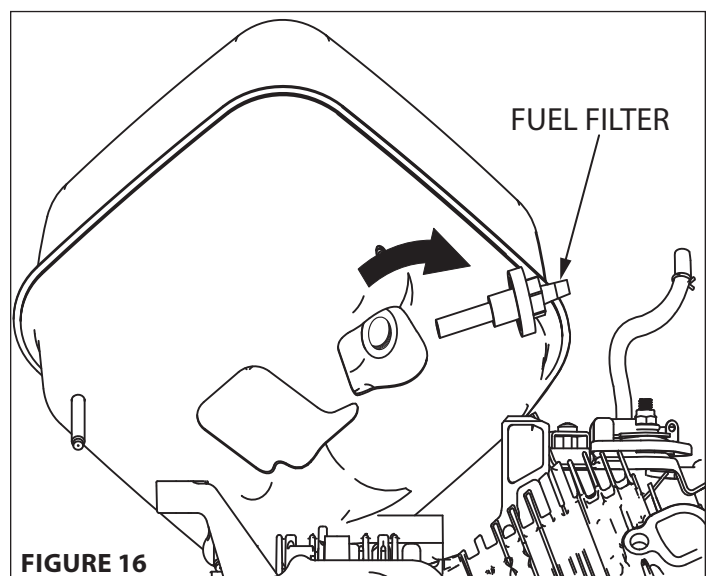

FIGURE 16
7. Remove fuel tank filter by using proper size socket to turn filter counter clockwise. **SEE FIGURE 16**